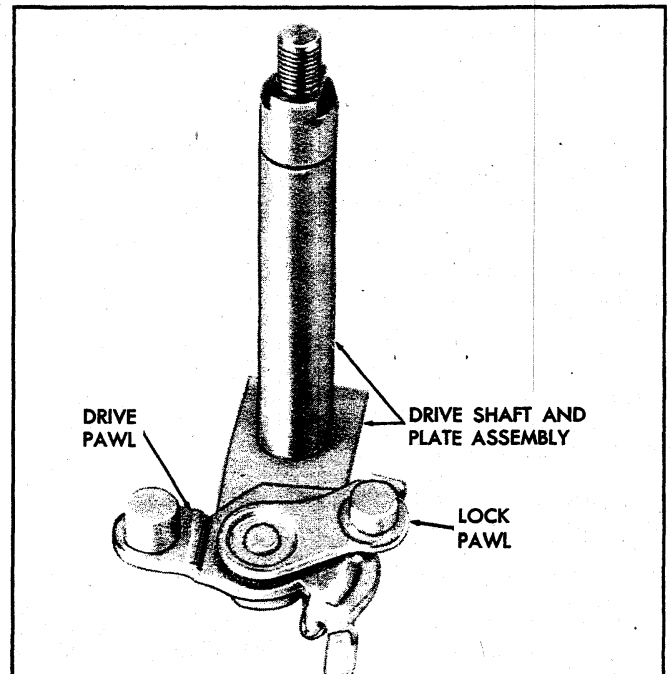

Fig. 86 - Lock and Drive Pawl Assembly
1. Position drive pawl on drive plate as shown in Figure 86.
2. Assemble lock pawl over drive pawl as shown in Figure 86.